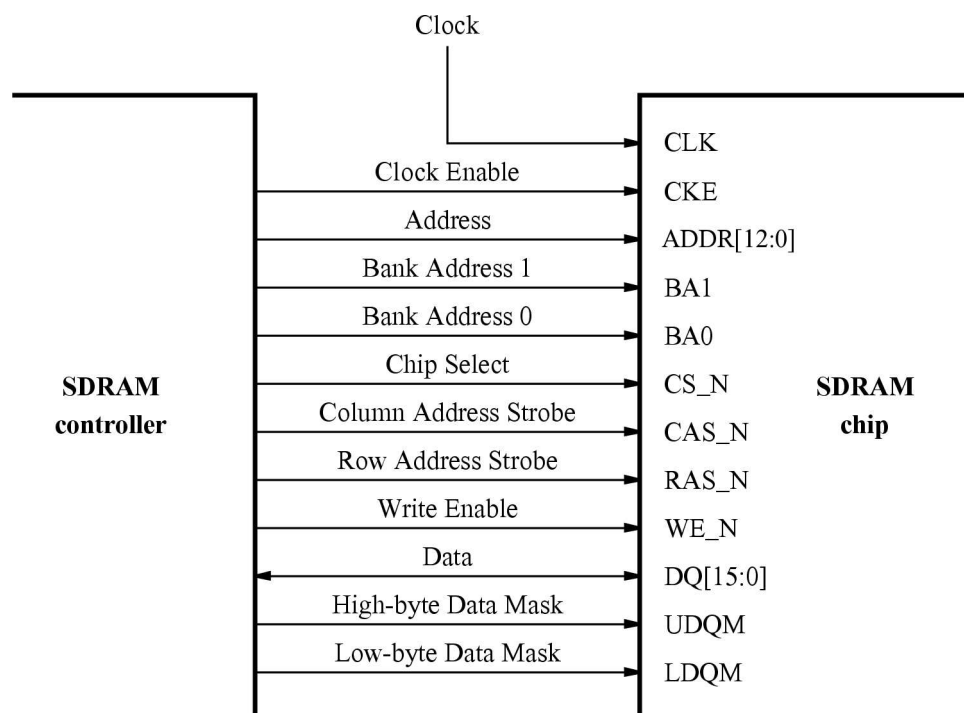
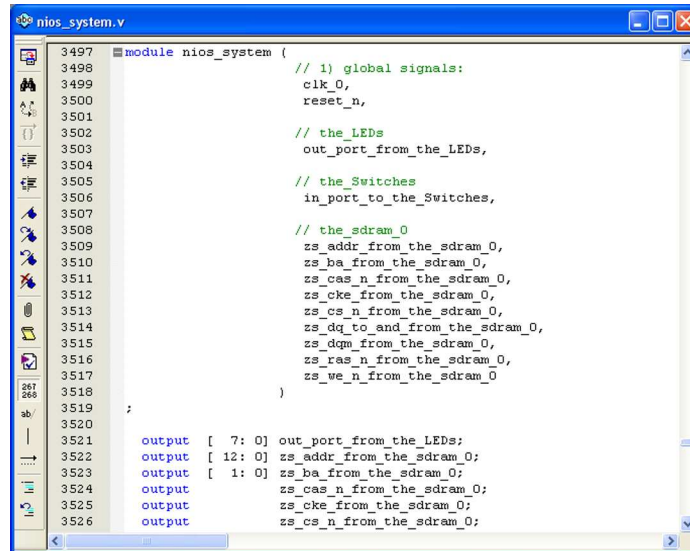

Figure 2. The SDRAM signals.
Figure 7. A part of the generated VHDL entity.
The two SDRAM chips on the DE2-70 board each have a capacity of 256 Mbits (32 Mbytes). Each chip is organized as 4M x 16 bits x 4 banks. The signals needed to communicate with a chip are shown in Figure 2. All of the signals, except the clock, can be provided by the SDRAM Controller that can be generated by using the SOPC Builder. The clock signal is provided separately. It has to meet the clock-skew requirements as explained in section 5. Note that some signals are active low, which is denoted by the suffix N.
The augmented VHDL entity generated by the SOPC Builder is in the file *nios\_system.vhd* in the directory of the project. Figure 7 depicts the portion of the code that defines the port signals for the entity *nios\_system*. As in our initial system that we developed in the introductory tutorial, the 8-bit vector that is the input to the parallel port *Switches* is called *in\_port\_to\_the\_Switches*. The 8-bit output vector is called *out\_port\_from\_the\_LEDs*. The clock and reset signals are called *clk\_0* and *reset\_n*, respectively. A new entity, called *sdram*, is included. It involves the signals indicated in Figure 2. For example, the address lines are referred to as the OUT vector *zs\_addr\_from\_the\_sdram\_0[12:0]*. The data lines are referred to as the INOUT vector *zs\_dq\_to\_and\_from\_the\_sdram\_0[15:0]*. This is a vector of the INOUT type because the data lines are bidirectional.
A first attempt at creating the new entity is presented in Figure 8. The input and output ports of the entity use the pin names for the 50-MHz clock, *CLOCK\_50*, pushbutton switches, *KEY*, toggle switches, *SW*, and green LEDs, *LEDG*, as used in our original design. They also use the pin names *DRAM0\_CLK*, *DRAM0\_CKE*, *DRAM0\_ADDR*, *DRAM0\_BA\_1*, *DRAM0\_BA\_0*, *DRAM0\_CS\_N*, *DRAM0\_CAS\_N*, *DRAM0\_RAS\_N*, *DRAM0\_WE\_N*, *DRAM\_DQ*, *DRAM0\_UDQM*, and *DRAM0\_LDQM*, which correspond to the SDRAM signals indicated in Figure 2. All of these names are those specified in the DE2-70 User Manual, which allows us to make the pin assignments by importing them from the file called *DE2\_70\_pin\_assignments.csv* in the directory *DE2\_70\_tutorials\design\_files*, which is included on the CD-ROM that accompanies the DE2-70 board and can also be found on Altera's DE2-70 web pages.
Observe that the two *Bank Address* signals are treated by the SOPC Builder as a two-bit vector called *zs\_ba\_from\_the\_sdram\_0[1:0]*, as seen in Figure 7. However, in the *DE2\_70\_pin\_assignments.csv* file these signals are given as separate signals *DRAM0\_BA\_1* and *DRAM0\_BA\_0*. This is accommodated by our VHDL code. Similarly, the vector *zs\_dqm\_from\_the\_sdram\_0[1:0]* corresponds to the signals (*DRAM0\_UDQM* and *DRAM0\_LDQM*).
--         SDRAM ports correspond to the signals in Figure 2; their names are those